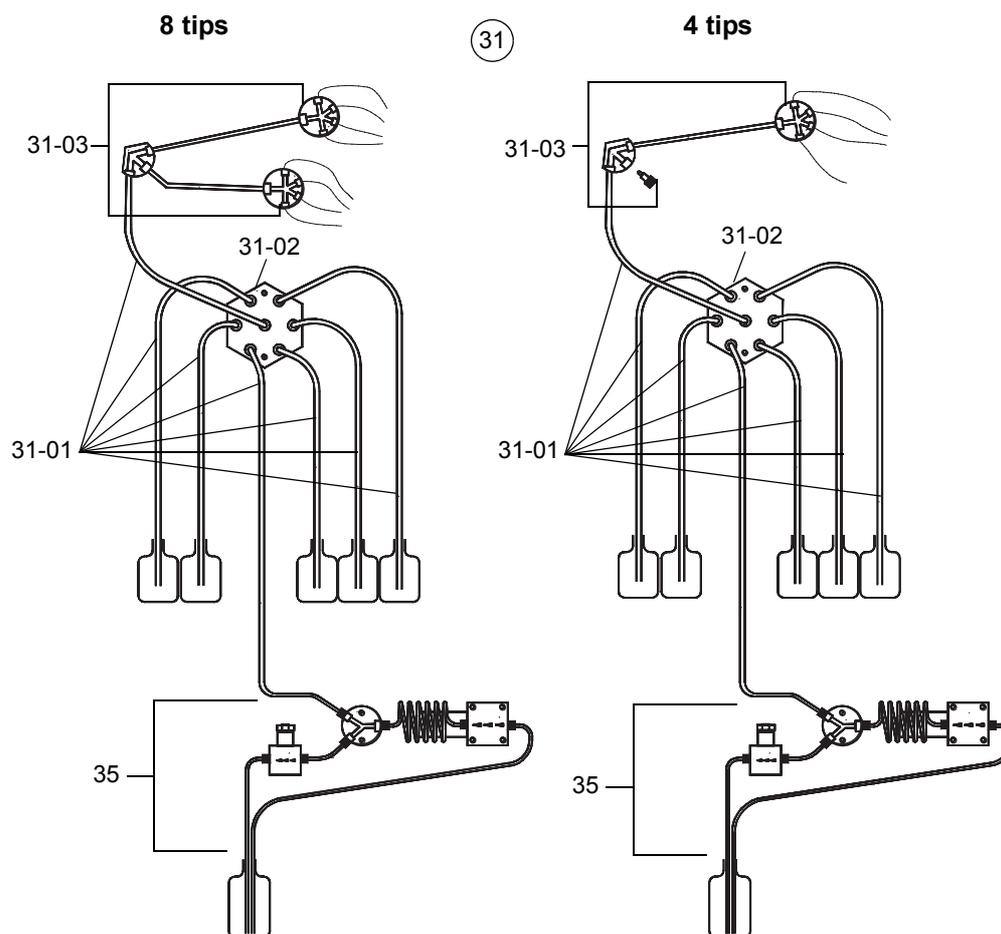

Figure 6-50 Tubing connections for standard configurations
- 4 Attach the tubing to the 6-way valve assembly according to Figure 6-50, 'Tubing connections for standard configurations'.